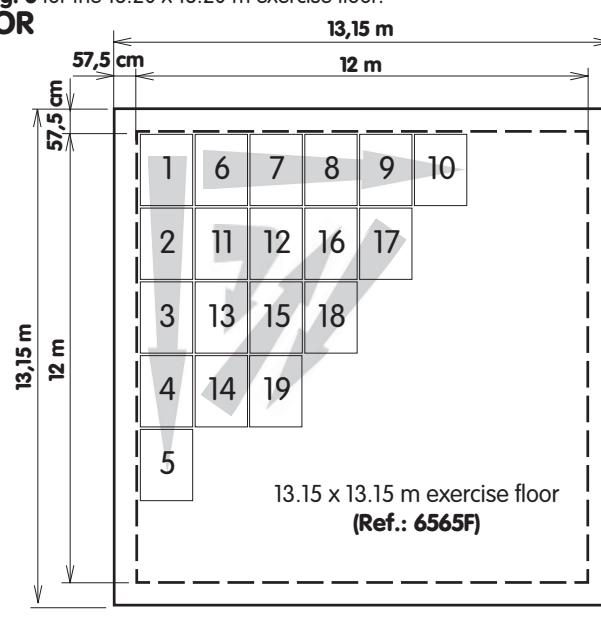

Figure 2
- 4 - Assemble the 48 floor panels (2 x 1.50 m) 2 of which are left corner panels (**2**), and 2 right corner panels (**2'**). Start on the 12 m side from a corner, with a corner panel (**2**) or (**2'**) and its Velcro strip towards the outside (see **Fig. 2, 5 or 6**). Assemble a minimum of 4 panels on each side starting from the corner, then fan out with the panels (**1**) following the sequence shown in **Fig. 1**.